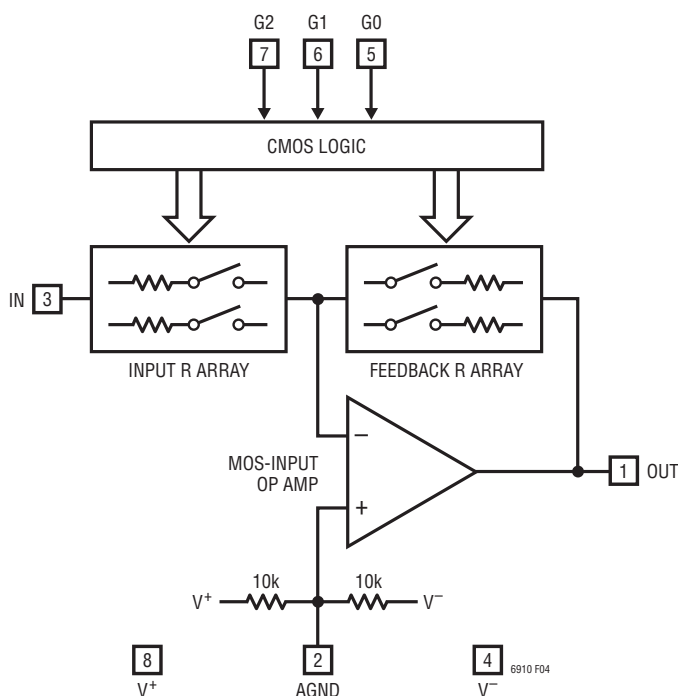
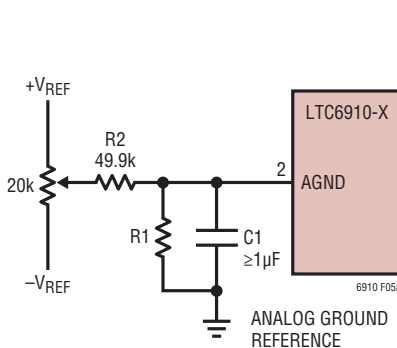

Figure 4. Block Diagram
Figure 5a. Offset Nulling
**AGND (Pin 2):** Analog Ground. The AGND pin is at the midpoint of an internal resistive voltage divider, developing a potential halfway between the  $V^+$  and  $V^-$  pins, with an equivalent series resistance to the pin of nominally 5k $\Omega$  (Figure 4). AGND is also the noninverting input of the internal op amp, which makes it the ground reference voltage for the IN and OUT pins. Because of this, very “clean” grounding is important, including an analog ground plane surrounding the package.
**IN (Pin 3):** Analog Input. The input signal to the amplifier in the LTC6910-X is the voltage difference between the IN and AGND pins. The IN pin connects internally to a digitally controlled resistance whose other end is a current summing point at the same potential as the AGND pin (Figure 4). At unity gain (digital input 001), the value of this input resistance is approximately 10kΩ and the IN voltage range is rail-to-rail ( $V^+$  to  $V^-$ ). At gain settings above unity (digital input 010 or higher), the input resistance falls. Also, the linear input voltage range falls in inverse proportion to gain. (The higher gains are designed to boost lower level signals with good noise performance.) Tables 1, 2, and 3 summarize this behavior. In the “zero” gain state (digital input 000), analog switches disconnect the IN pin internally and this pin presents a very high
The LTC6910 family are small outline, wideband inverting DC amplifiers whose voltage gain is digitally programmable. Each delivers a choice of eight voltage gains, controlled by the 3-bit digital inputs to the G pins, which accept CMOS logic levels. The gain code is always monotonic; an increase in the 3-bit binary number (G2 G1 G0) causes an increase in the gain. Table 1, Table 2 and Table 3 list the nominal voltage gains for LTC6910-1, LTC6910-2 and LTC6910-3 respectively. Gain control within each amplifier occurs by switching resistors from a matched array in or out of a closed-loop op amp circuit using MOS analog switches (Figure 4). Bandwidth depends on gain setting. Curves in the Typical Performance Characteristics section show measured frequency responses.
Settling time in the CMOS gain-control logic is typically several nanoseconds and faster than the analog signal path. When amplifier gain changes, the limiting timing is analog, not digital, because the effects of digital input changes are observed only through the analog output (Figure 4). The LTC6910-X's logic is static (not latched) and therefore lacks bus timing requirements. However, as with any programmable-gain amplifier, each gain change causes an output transient as the amplifier's output
The electrical tables list DC offset (error) voltage at the inputs of the internal op-amp in Figure 4,  $V_{OS(OA)}$ , which is the source of DC offsets in the LTC6910-X. The tables also show the resulting, gain dependent offset voltage referred to the IN pin,  $V_{OS(IN)}$ . These two measures are related through the feedback/input resistor ratio, which equals the nominal gain-magnitude setting, G:
Offset voltages at any gain setting can be inferred from this relationship. For example, an internal offset  $V_{OS(OA)}$  of 1mV will appear referred to the IN pin as 2mV at a gain setting G of 1, or 1.5mV at a gain setting of 2. At high gains,  $V_{OS(IN)}$  approaches  $V_{OS(OA)}$ . (Offset voltage can be of either polarity; it is a statistical parameter centered on zero.) The MOS input circuitry of the internal op amp in Figure 4 draws negligible input currents (unlike some op amps), so only  $V_{OS(OA)}$  and G affect the overall amplifier's offset.
Because internal op amp offset voltage  $V_{OS(OA)}$  is gain independent as noted above, offset trimming can be readily added at the AGND pin, which drives the noninverting input of the internal op amp. Such a trim shifts the AGND voltage slightly from the system's analog ground reference, where AGND would otherwise connect directly. This is convenient when a low resistance analog ground potential or analog ground reference exists, for the return of a voltage divider as in Figure 5a. When adjusted for zero DC output voltage when the LTC6910-X has zero DC input voltage, this DC nulling will hold at other gain settings also.
Figure 5a shows the basic arrangement for dual-supply applications. A voltage divider ( $R1$  and  $R2$ ) scales external reference voltages  $+V_{REF}$  and  $-V_{REF}$  to a range equaling or slightly exceeding the approximately  $\pm 10\text{mV}$  op amp offset-voltage range. Resistor  $R1$  is chosen to drop the  $\pm 10\text{mV}$  maximum trim voltage when the potentiometer is set to either end. Thus if  $V_{REF}$  is 5V,  $R1$  should be about  $100\Omega$ . Note also that the two internal  $10\text{k}\Omega$  resistors in Figure 4 tend to bias AGND toward the mid-point of  $V^+$  and  $V^-$ . The external voltage divider will swamp this effect if  $R1$  is much less than  $5\text{k}\Omega$ . When considering the effect of the internal  $10\text{k}\Omega$  resistors, note that they form a Thévenin equivalent of  $5\text{k}\Omega$  in series with an open-circuit voltage at the halfway potential  $(V^+ + V^-)/2$ . (Although
With this trim technique in place, the remaining DC offset sources are drifts with temperature (typically  $6\mu\text{V}/^\circ\text{C}$  referred to  $V_{OS(OA)}$ ), shifts in the LTC6910-X's supply voltage divided by the PSRR factors, supply voltage shifts coupling through the two  $10\text{k}\Omega$  internal resistors of Figure 4, and of course any shifts in the reference voltages that supply  $+V_{REF}$  and  $-V_{REF}$  in Figure 5a.
At a gain setting of 10V/V in an LTC6910-1 (digital input 100) and a 250ksps sampling rate in the LTC1864, a 10kHz input signal at 60% of full scale shows a THD of -87dB at the digital output of the ADC. 100kHz input signals under the same conditions produce THD values around -75dB. Noise effects (both random and quantization) in the ADC are divided by the gain of the amplifier when referred to  $V_{IN}$  in Figure 4. Because of this, the circuit can acquire a signal that is 40dB down from full scale of 5VP-P with an SNR of over 70dB. Such performance from an ADC alone ( $70 + 40 = 110\text{dB}$  of useful dynamic range at 250ksps), if available, would be far more expensive.